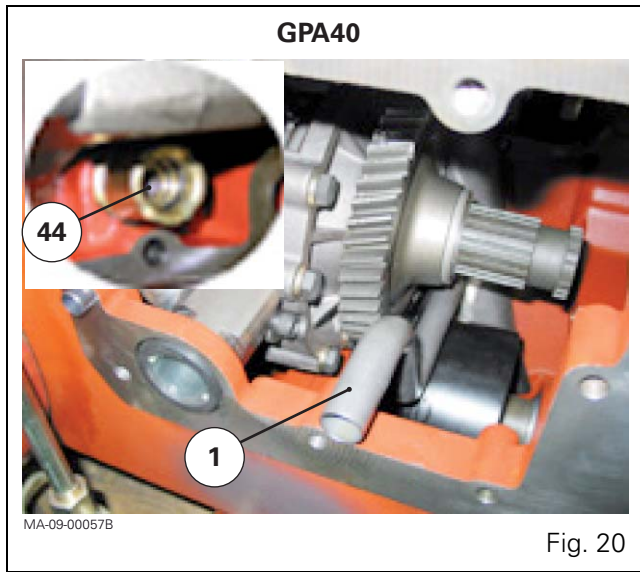

Fig. 20
IMPORTANT: When fitting the hydraulic cover plate to the intermediate or centre housing, check between the mating faces (cover plate and housing) to ensure that the continuity pipe (1) (GPA20 and GPA40) or (55) (GPA30) is correctly fitted in the 5 bar safety valve (44) as per the GPA40 example (Fig. 20).
26. Screw in the screws (1) and simultaneously remove guide studs G (if used). Tighten these screws to a torque of 120-160 Nm.